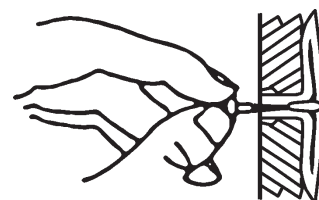

Figure 9 - Popping Open Anchor Wing For Thin Walls
4. For thin walls (1/2 inch or less), insert red key into wall anchor. Push red key to "pop" open anchor wings (see Figure 9).